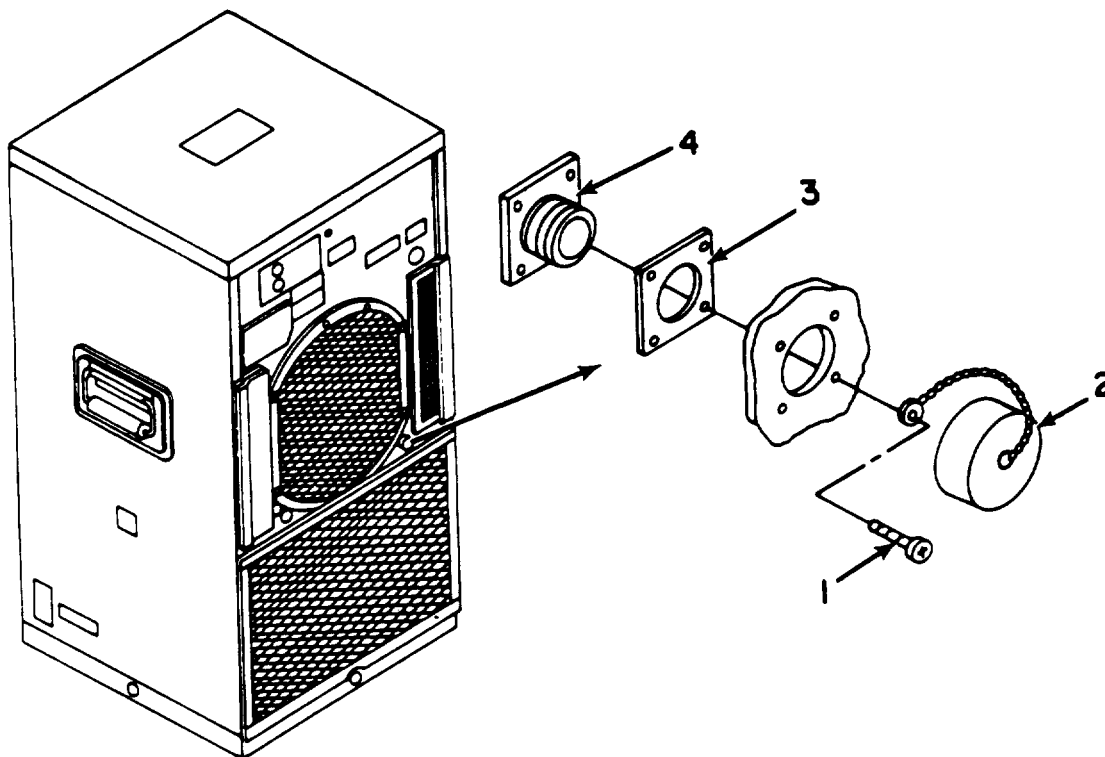

Figure 4-20. Connector Cover.
- a. **REMOVAL.** See Figure 4-20.